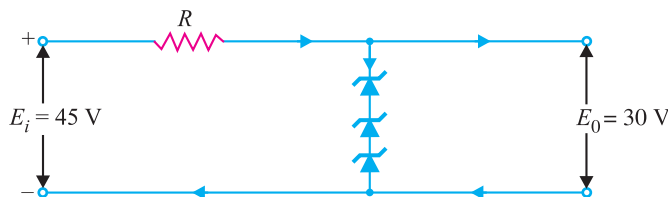

Fig. 6.67
**Solution.** Fig. 6.67 shows the desired circuit. The worst case is at no load because then zeners carry the maximum current.